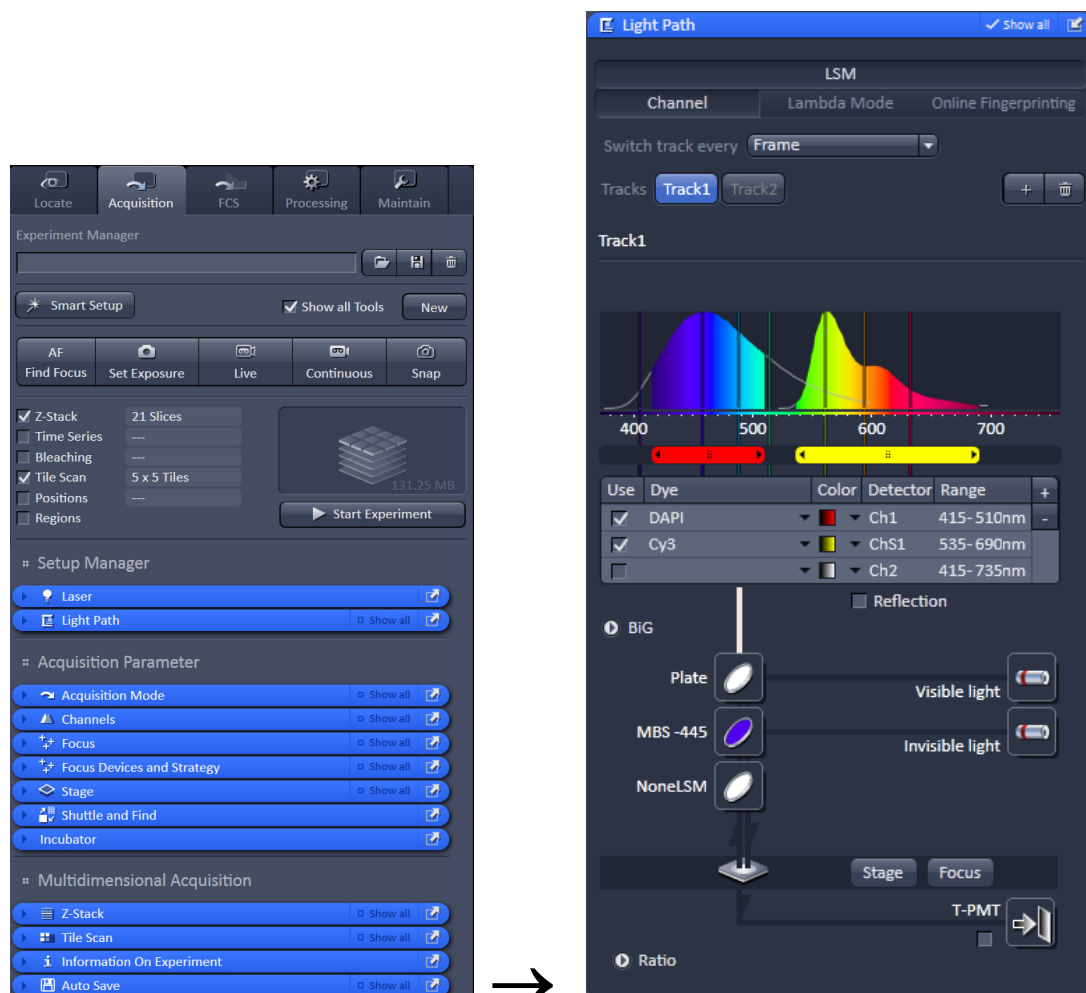

Fig. 18 Light Path tool for a single track (LSM)
The open **Light Path** is shown in Fig. 18.
- Select **Channel Mode** if necessary (Fig. 18).
- Select the appropriate filters and activate the channels (Fig. 18).
- Click the **Laser** icon to select the laser lines and set the attenuation values (transmission in %) in the displayed window (Fig. 18).
The following functions are available in the **Light Path** tool of the **Setup Manager** tool group (Fig. 18).